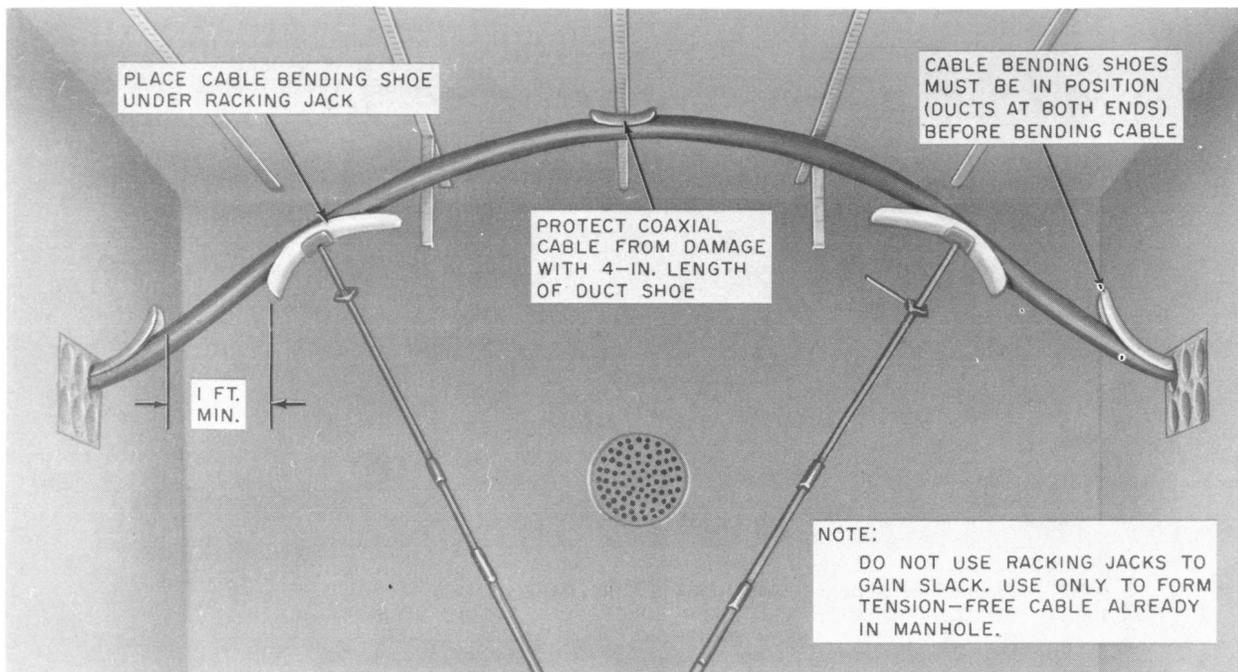

Fig. 30—Use of B Cable Racking Jacks on Coaxial Cable
(8) To start bending of the cable into the corners of the manhole, position one or two B cable racking jacks on the cable with a duct shoe between the cable and the jack (see Fig. 30).